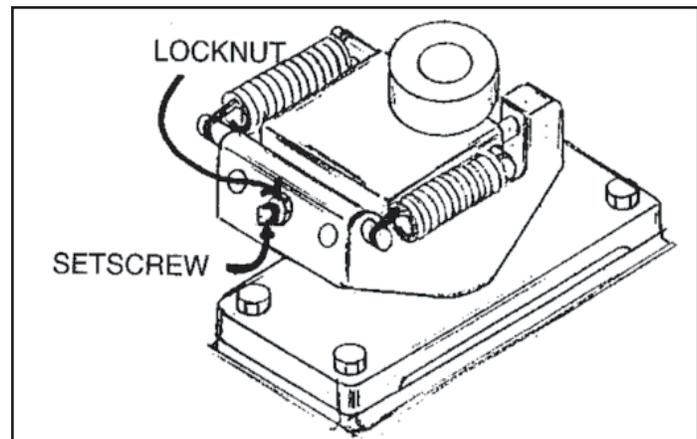

Figure 6
3. Drive Slide adjustment is to stop the crank plate in the center, when releasing the rounding lever, See Fig.6. The crank plate must be removed to make this adjustment. (To remove crankplate, see instructions on page 10, Item 7) Loosen lock nut and turn set screw counter clockwise, to allow drive slide to come back to center. Tighten lock nut. If drive slide is coming back beyond center, loosen lock nut, turn set screw clockwise, pushing drive slide to center. Tighten lock nut.